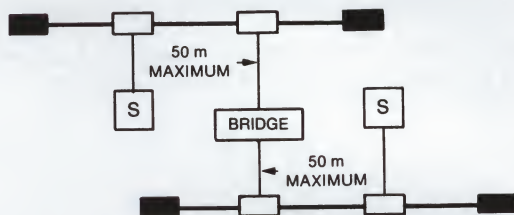

Figure A-14 ■ Local Bridge
- A local bridge joins two LANs by transmitting signals over connecting transceiver cables (Figure A-14). Each transceiver cable can be 5 to 50 meters (16.5 to 165 feet) long.